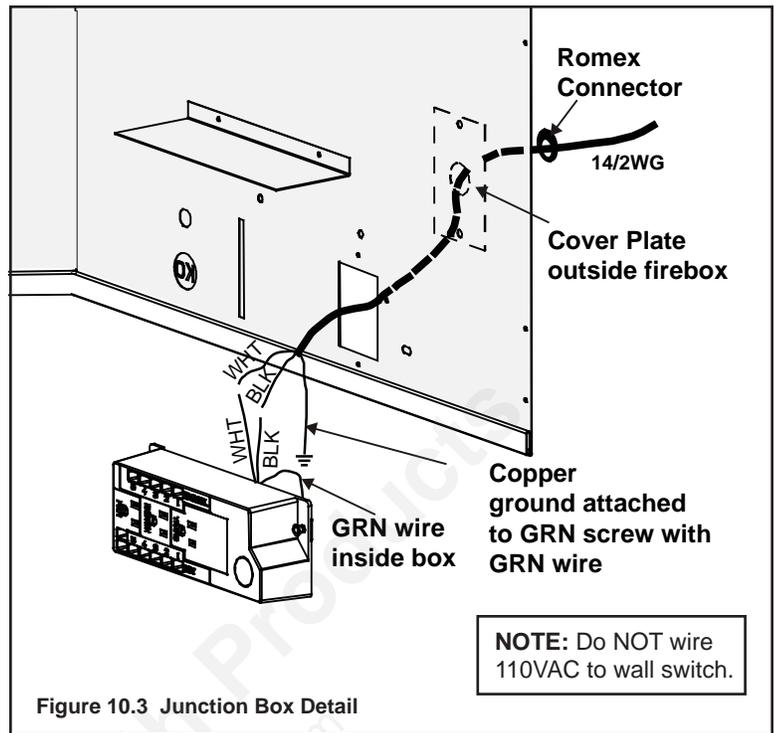

Figure 10.3 Junction Box Detail
- Remove the cover plate located on the outer shell - right side (see Figure 10.3).
- Remove the screw attaching the junction box/receptacle to the outer shell, rotate the junction box inward to disengage it from the outer shell (see Figure 10.3).